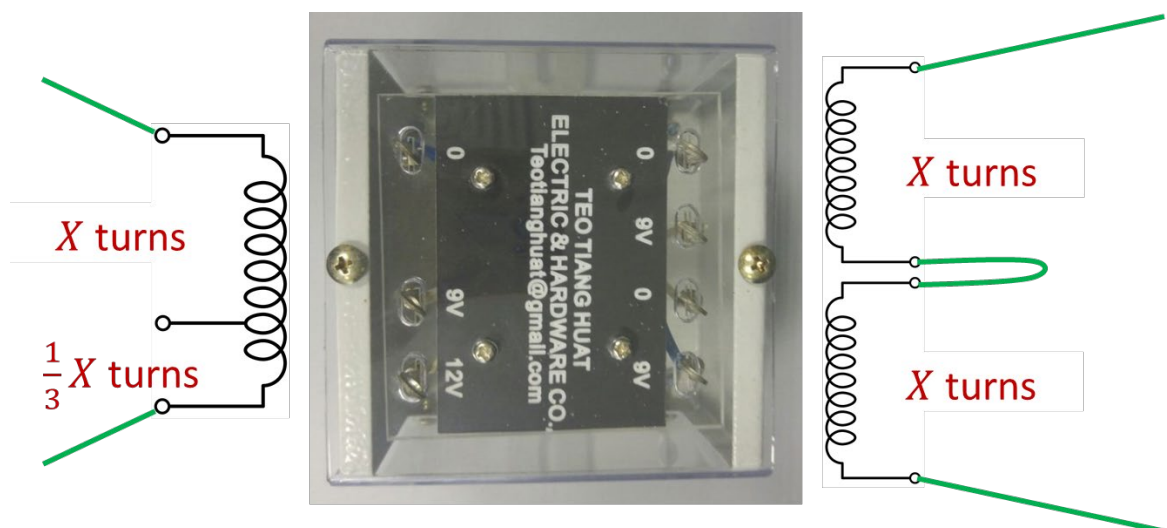

Figure 4: **Transformer 2** (Step up/ step down transformer) Configuration Example
- Step Up Transformer (Transformer 2 is connected as shown in Figure 4)